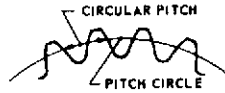

FIGURE 1.9 — CIRCULAR PITCH
- 1.22 **Circular Pitch** is the distance along the pitch circle or pitch line between corresponding profiles of adjacent teeth. (Figure 1.9)